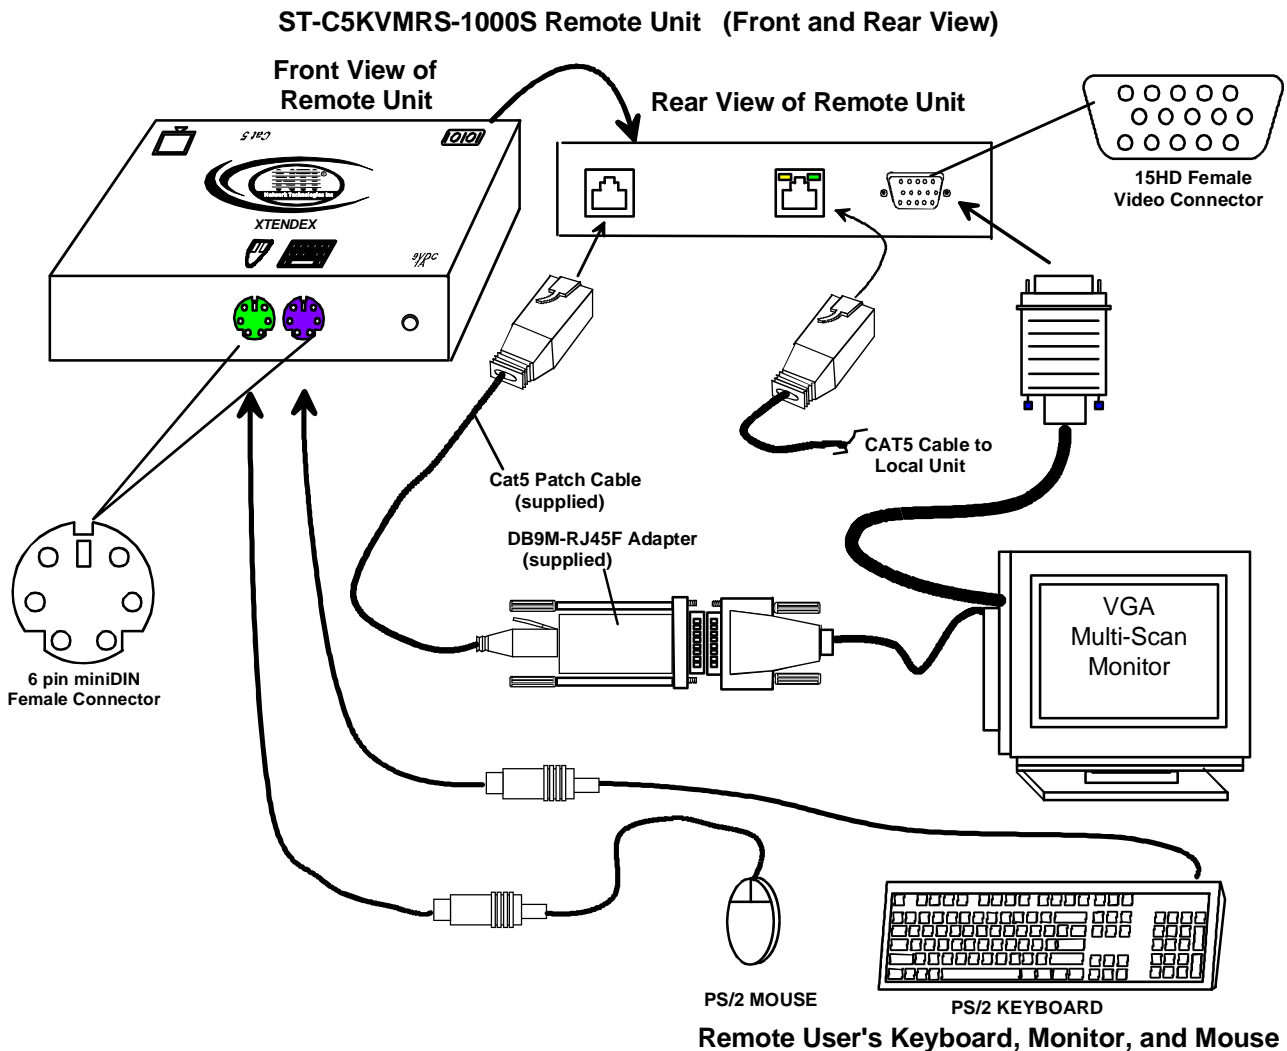

Figure 6- Connect the extended components to the Remote Unit
3. Connect the device(s) to the Remote Unit (see Fig. 6)(KVM models only).